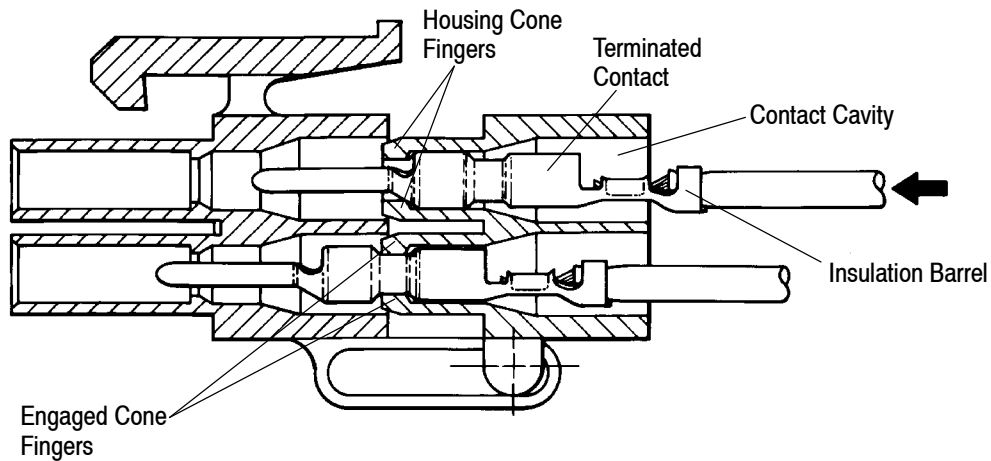

Figure 7
2. Select the appropriate contact cavities. Insert terminated pin or socket contacts into wire side of housing by grasping the wire directly behind the insulation barrel and pushing the contact with a twisting motion into the contact cavity until the contact stops and the housing cone fingers engage. See Figure 7.